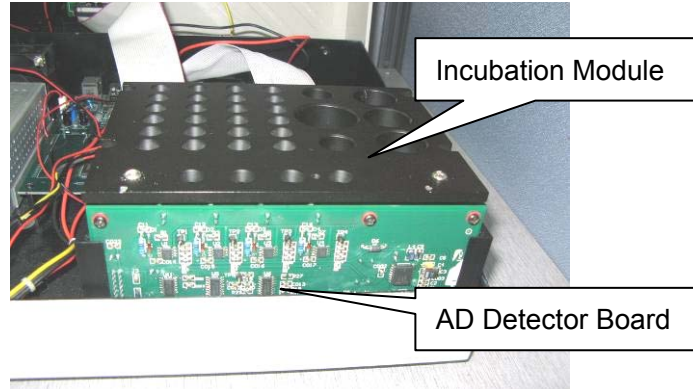

Figure 4-12
1. Switch off the power supply, remove the power cord, and open the upper cover of the analyzer, and incubation module and AD detector board can be seen as shown in Figure 4-12.